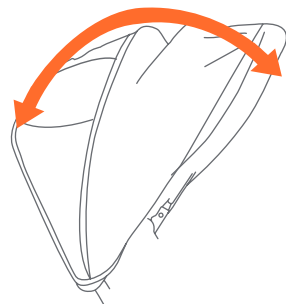

Fig. 8
- 8) • To open the canopy: push forward on the front edge of the canopy while holding the rear of canopy in place (Fig. 8).
- To fold the canopy: pull backwards on the front edge (Fig. 8).